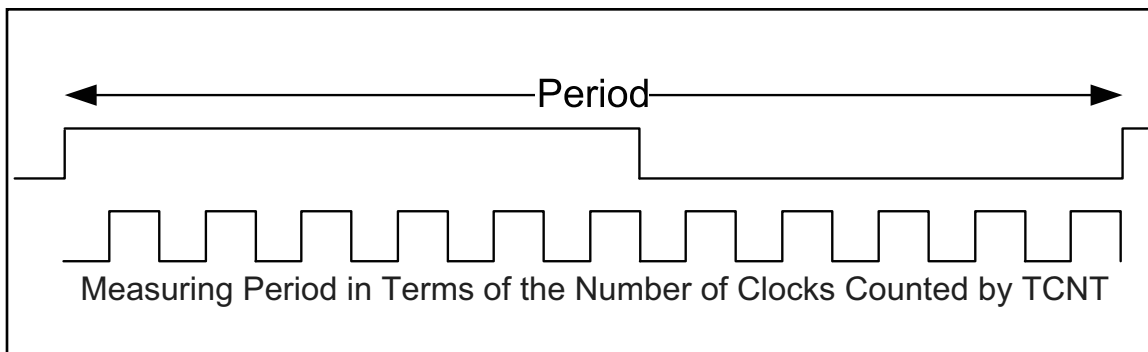

Figure 20. Using Input Capture to Measure Period
6. Save the ICR1 for the second edge. By subtracting the second edge value from the first edge value we get the time. See Examples 23 and 24. Also see Figure 20.